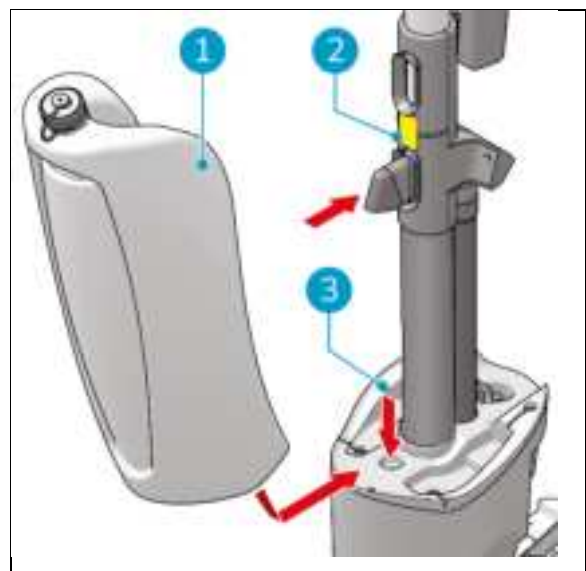

Figure 10
2. Put the bottom of the recovery tank (Figure 10, pos 1 and pos 3) on the front of the i-mop XL plus.
3. Push the top of the tank into place until you hear a 'click' sound, the magnet (Figure 10, pos 2) will lock the recovery tank into place.